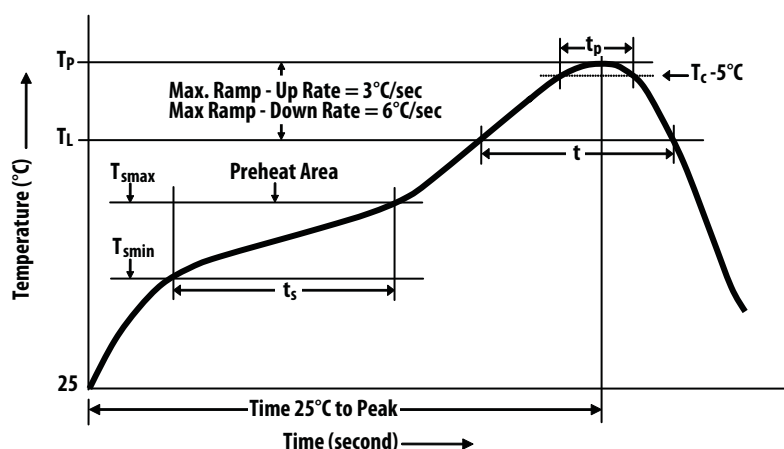

Figure 7. Solder Reflow Profile for PCB
3. Reflow the entire assembly with a no-wash solder flux process (refer to Figure 7 below).
Refer to Figure 7 and Table 2 for the recommended solder reflow profile for PCB using Pb-free solder paste LF310.
As ADNS-7630 is a QFN package, it is designed to be a contact-down package. Refer to Figure 7 and 8 on the critical and non-critical areas for QFN soldering. The critical area for soldering ADNS-7630 is on the terminal undersides, while the terminal sides are deemed as non-critical area, and thus not intended to be wettable. The non-wetting